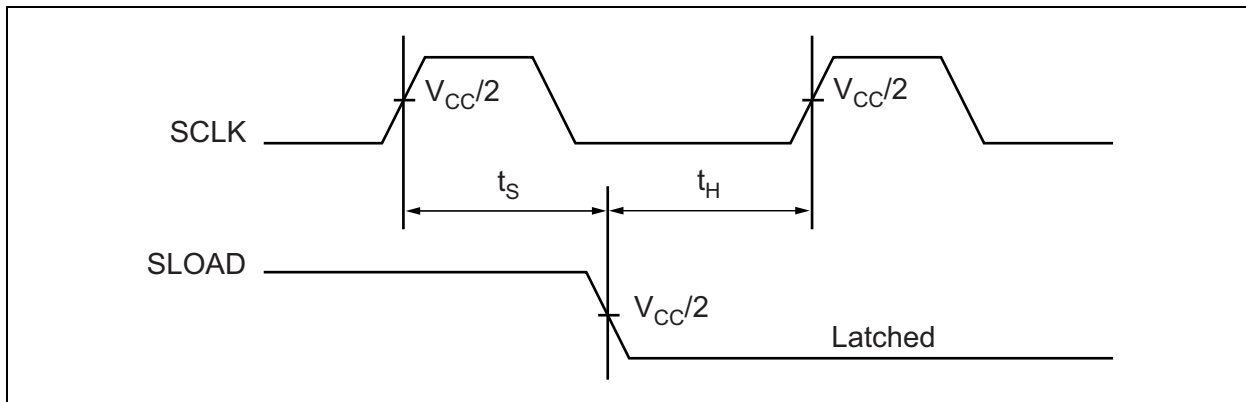

FIGURE 4-2: Setup and Hold Time: SCLK and SLOAD.
- 3:** SCLK has to transition L-H a setup time before the SLOAD H-L transition to ensure the valid data is properly latched. See Figure 4-2.
- 5:** SCLK has to transition L-H a hold time after the SLOAD H-L transition to ensure that the valid data is properly latched before starting to load new data. See Figure 4-2.